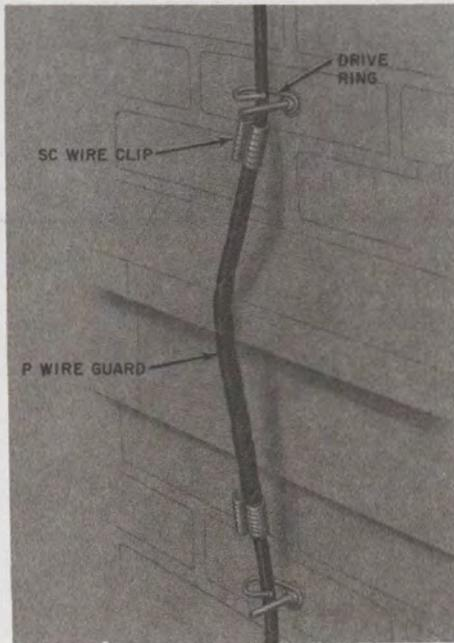

Fig. 3—Crossing Masonry Building Projection
4.04 Fig. 3 through 12 are typical examples of wiring requiring protection.
Fig. 3 through 12 are typical examples of wiring requiring protection. The following are examples of wiring that should not be installed through removable gratings: